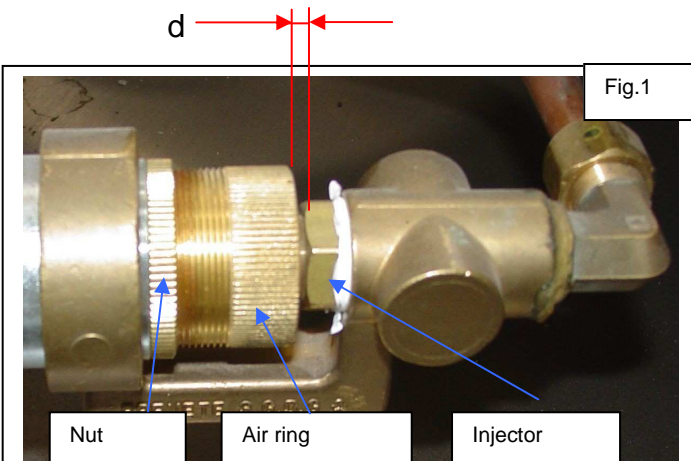

Fig.1
<p>Access to the 2 fixing screws by the top of the flue (right and left hand sides) (fig. 1 and fig.2).</p>	<p>Fig.1</p>
- Connect the manometer onto the pressure intake located on the ramp (see fig. 1 & 2).